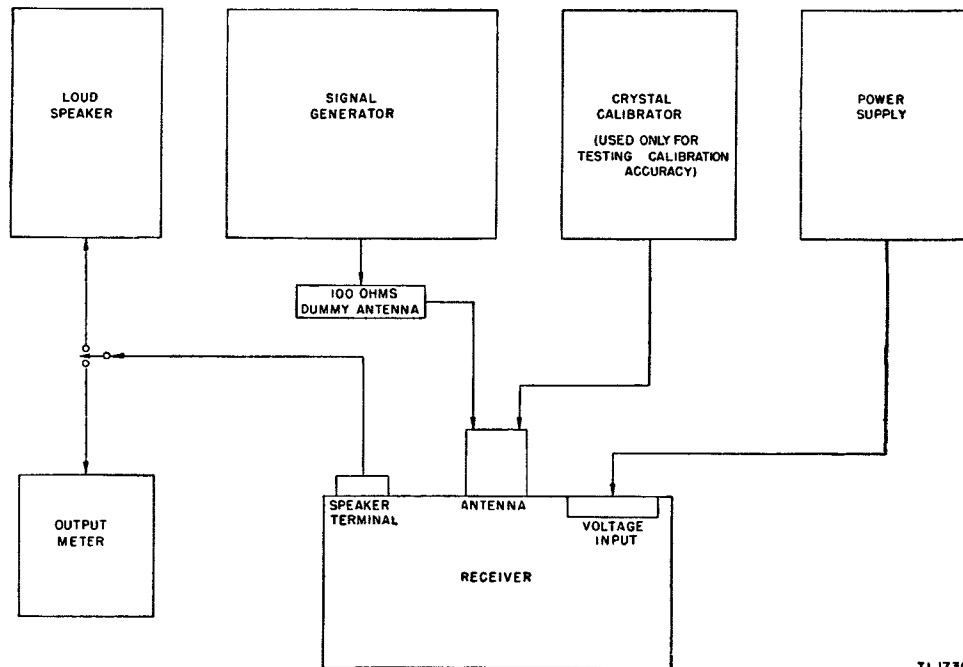

Figure 22. Block diagram of test set-up.
*g.* (See fig. 22 for a block diagram of the test set-up.)
a. Connect a suitable crystal calibrator with 100-ke and 1,000-ke secondary frequency standard (accurate to 0.01 percent) to receiver under test as shown in figure 22.